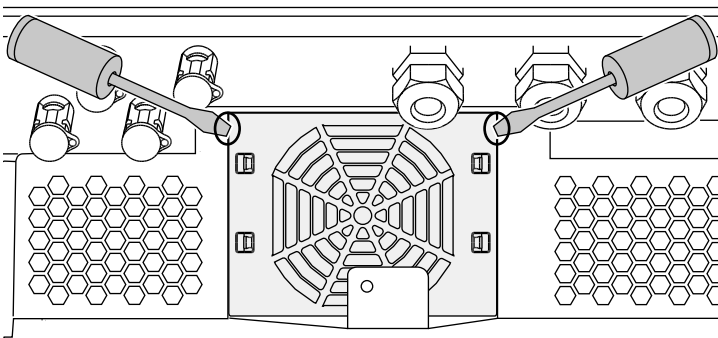

Fig. 70: Loosen fan grill
2. Dismantle the fan. To do this, place a screwdriver at the edge of the fan grill and apply slight pressure to the fan grill. ↗ **Fig. 70**